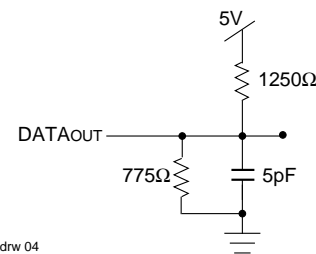

Figure 2. Output Test Load
- Transition is measured ±500mV from Low or High-impedance voltage with the Output Test Load (Figure 2).
1. Transition is measured ±500mV from Low or High-impedance voltage with Output Test Load (Figure 2).
7. This parameter is determined by device characterization, but is not production tested. Transition is measured +/- 500mV from steady state with the Output Test Load (Figure 2).